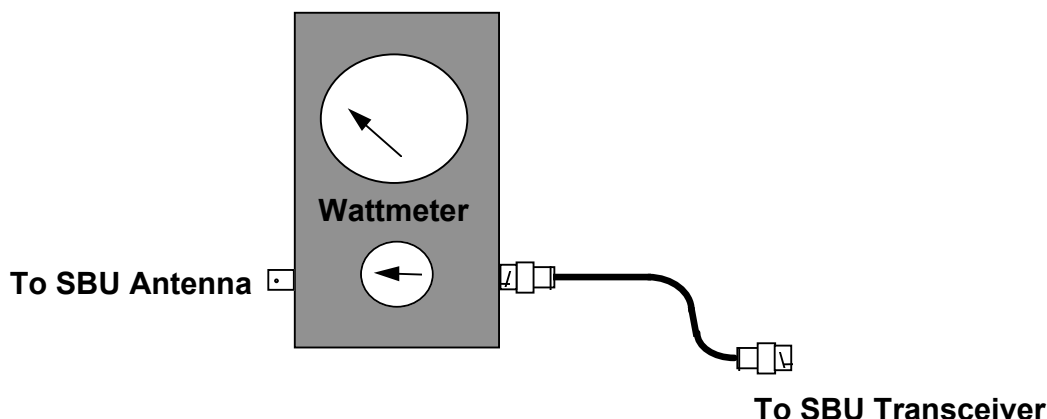

Figure 2-5 - Use of Watt Meter
1. Disconnect the SBU antenna BNC connector from the transceiver and connect a watt meter in series with the transceiver and antenna as shown in Figure 2-5.